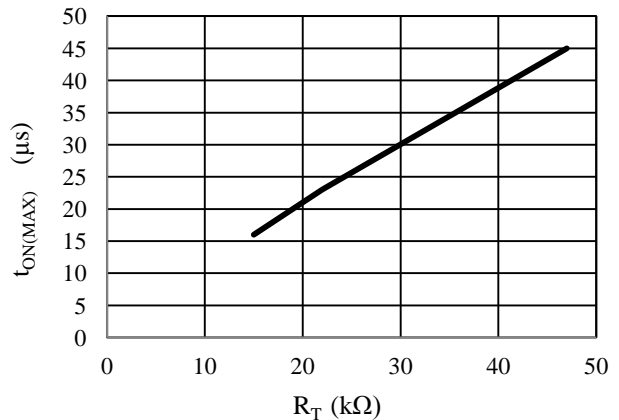
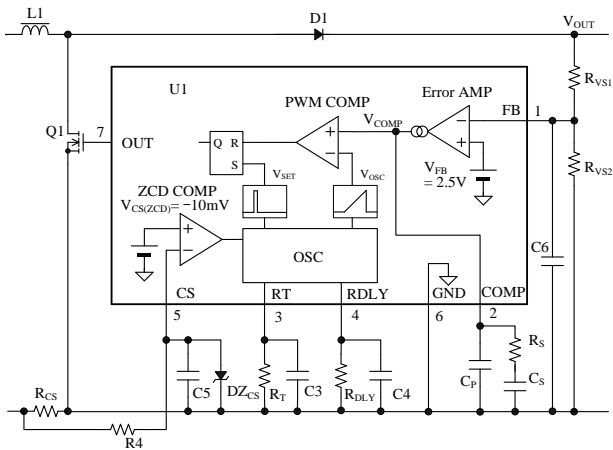

Figure 9-7 Relationship between R_T value and $t_{ON(MAX)}$ value (IC design)
Figure 10-1 The IC peripheral circuit.
Figure 9-7 shows the relation between R_T value and $t_{ON(MAX)}$ in IC design. The $t_{ON(MAX)}$ is made into a larger value than $t_{ON(SET)MAX}$ that is result of Equation (9) in Section 10.1 Inductor.
Figure 10-1 shows the IC peripheral circuit.
R_T shown in Figure 10-1 is for the adjustment of maximum on-time, $t_{ON(MAX)}$. The $t_{ON(MAX)}$ is made into a larger than $t_{ON(SET)MAX}$ value which is the result of Equation (9) in page 13 “Inductor”(see Figure 9-7).
R_{DLY} shown in Figure 10-1 is for the adjustment of the turn-on delay time, t_{DLY} , of the Power MOSFET. As shown in Section 0 Zero Current Detection, adjust the value of R_{DLY} and turn-on timing to the bottom point of V_{DS} free oscillation waveform on actual operation in the application. The value of capacitor $C4$ is approximately 0.01 μ F, in order to reduce the switching noise.
R_{CS} shown in Figure 10-1 is current sensing resistor. R_{CS} is calculated using the following Equation (2), where Overcurrent Protection Threshold Voltage $V_{CS(OC)}$ is -0.6 V and I_{LP} is calculated using Equation (12).